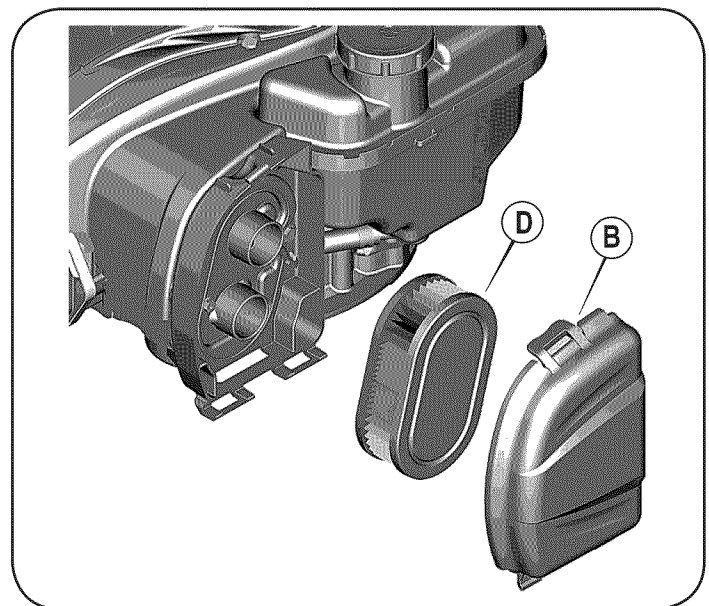

Figure 14
1. Open the cover (B). See Figure 14.
2. Remove the filter (D).
4. Install the filter (D).
5. Close the cover (B).